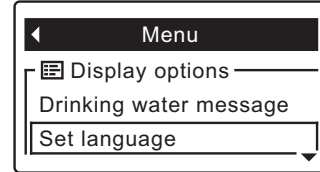

FIG. 55
2. Press the DOWN (▼) button to scroll through the menu options until **Set language** is highlighted in a box (See Figure 55). Press the SELECT (○) button.
6. Press the SELECT (○) button. The display will go back to the menu shown in Figure 55, in the newly set language.